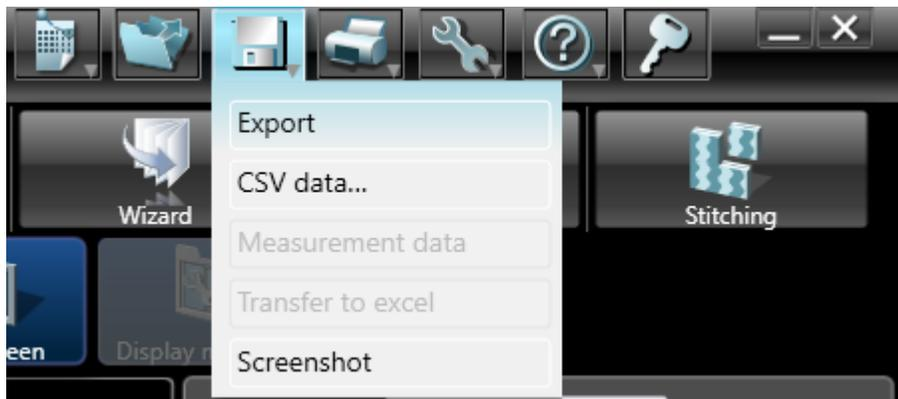

Figure 19. Saving the File
17. To save the file, click the disk icon and export the image, as shown in Figure 19.